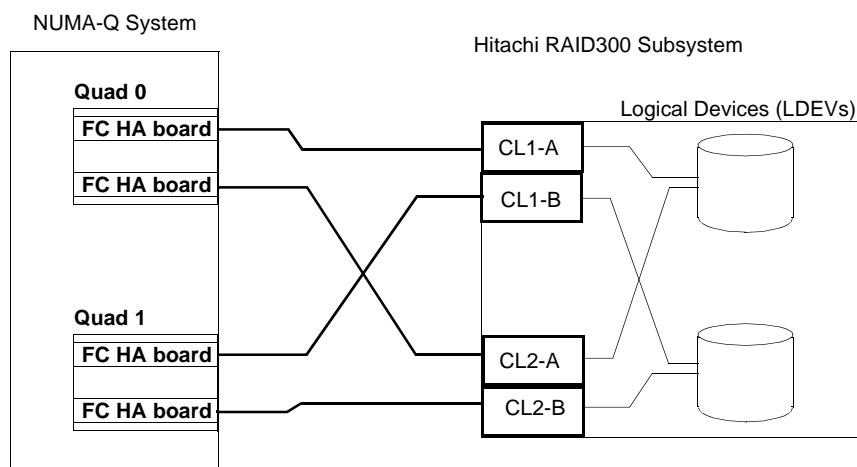

Figure 5-3.
- Figure 5-3 shows cabling for a typical arbitrated loop (FC-AL) Fibre Channel connection to a IBM NUMA-Q host system.